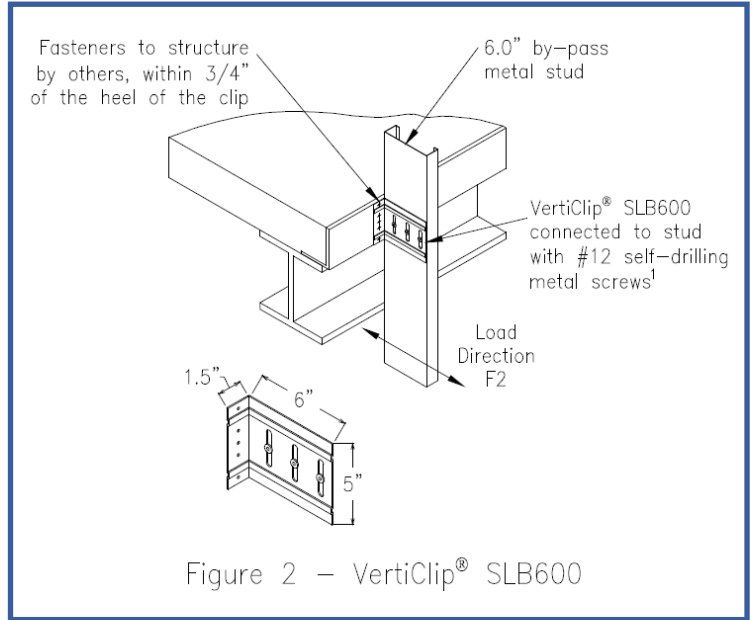

Figure 2 – VertiClip® SLB600
3.1.3 VertiClip® SLB: The VertiClip SLB600 is an L-shaped angle that connects 6-inch-deep (152 mm) exterior curtain wall steel studs to a concrete floor slab's pour stop angle while allowing a maximum of 2 inches (51 mm) of vertical movement between exterior wall elements and the primary structure. The minimum base-metal thickness of the clip is 0.0677 inch (1.7 mm). The long leg of the connector, which is fastened to the curtain wall stud, has three vertical slots, each 3/8 inch (9.5 mm) wide by 2 3/8 inches (60.3 mm) long. Refer to Figure 2 for overall dimensions of the VertiClip SLB600 connector and a typical installation detail.